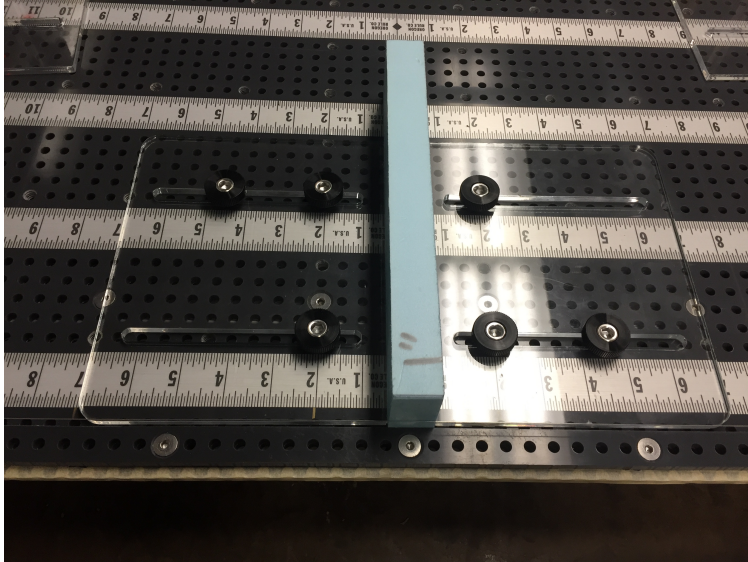

Figure 2.3: Secure the Foam Step 5
5. Place a second acrylic plate firmly against the foam and secure with 3 thumb screws as shown in fig 2.3 below.